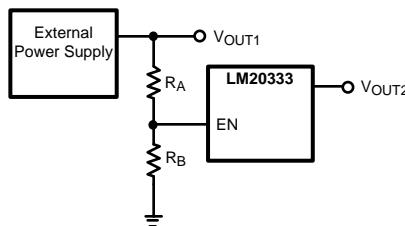

Figure 29. Sequencing LM20333 with Precision Enable
The precision enable (EN) and power good (PGOOD) pins of the LM20333 can be used to address many sequencing requirements. The turn-on of the LM20333 can be controlled with the precision enable pin by using two external resistors as shown in Figure 29.